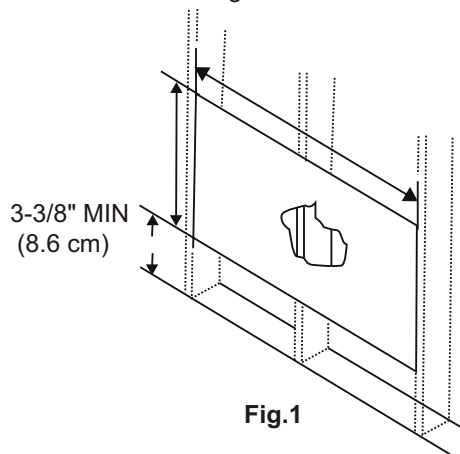
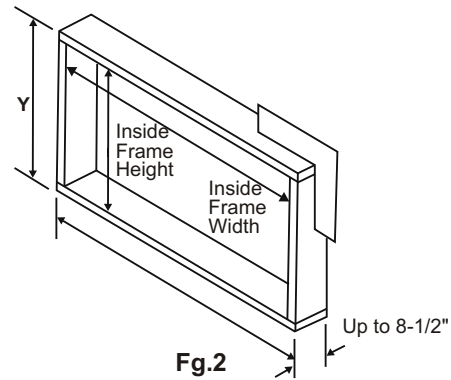

Fig.1
Fig.2
3. Measure between inside edges of every other stud as shown in Fig. 1.
Carefully measure and cut an opening with the following dimensions depending on your model. See Fig.1 and Fig.2.